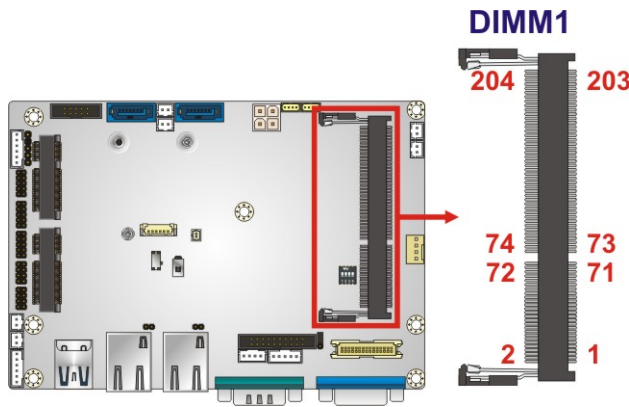

Figure 3-24: SO-DIMM Connector Location
- CN Location:** See **Figure 3-24**